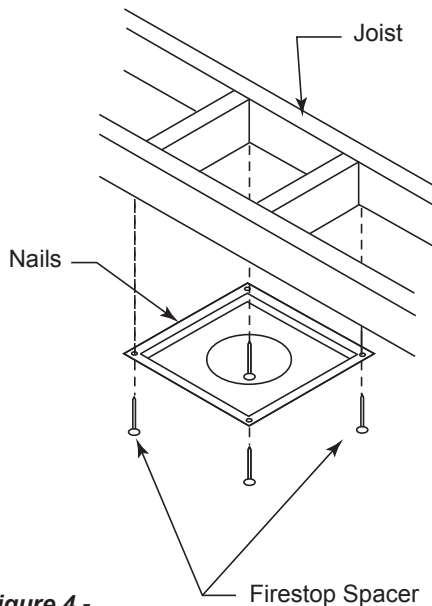

Figure 4 -
5. Frame the hole with framing lumber the same size as the ceiling joists. Position firestop. If attic is above, mount firestop on top of framing. *Figure 3*. If room is above, mount firestop on the bottom of framing. *Figure 4*. Secure with nails or screws.